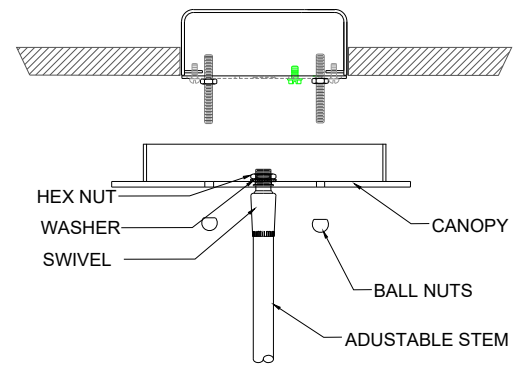

FIGURE-02
- Determine the overall desired length of the fixture. Assemble the adjustable stems one at a time onto the fixture leads. Tape the end of the leads to a stiff wire (coat hanger) to aid in pulling them through the stems. Place the canopy on the stems. Assemble the stem section and swivel. Tighten the swivel on its place with hex nut. (See Figure-02)